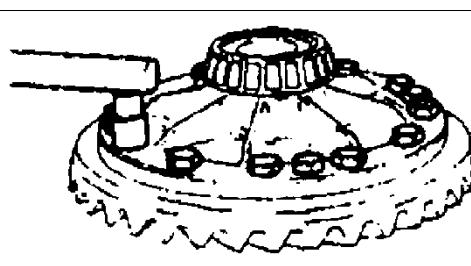

Figure 3-17
6) Removing driven gears in the difference cover (Figure 3-17)